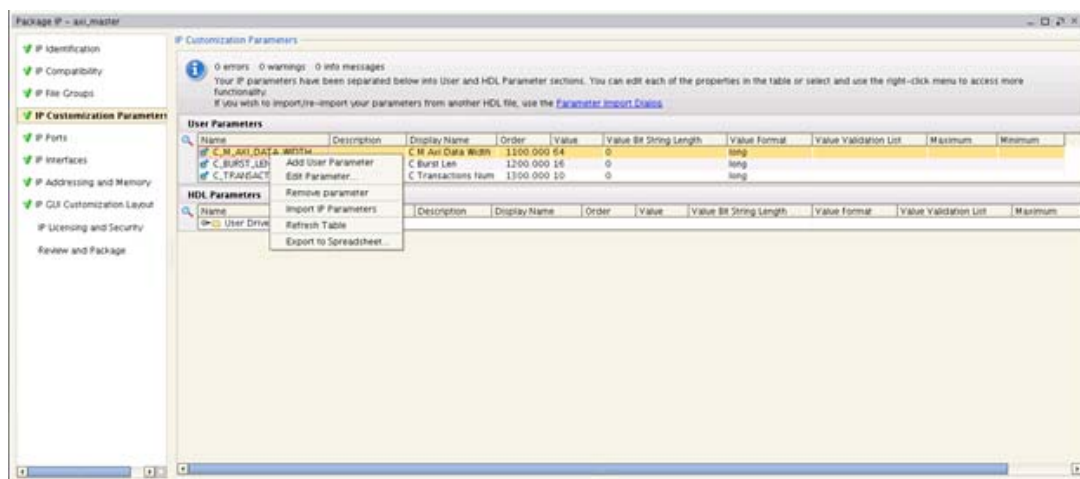

Figure 19: IP Customization Parameters for AXI4 Master IP, C_M_AXI_DATA_WIDTH
2. Select the C_M_AXI_DATA_WIDTH value in the table. Right-click and select **Edit Parameter...** (Figure 19).